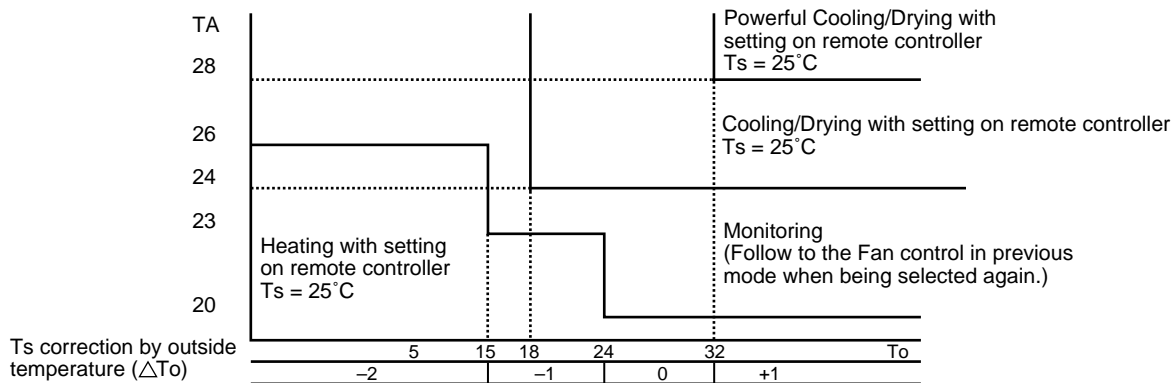

Fig. 8-2-9
(1) As shown in Fig. 8-2-9, the operation mode (COOL, DRY, HEAT) is selected according to the outside temperature and room temperature when the operation has started.